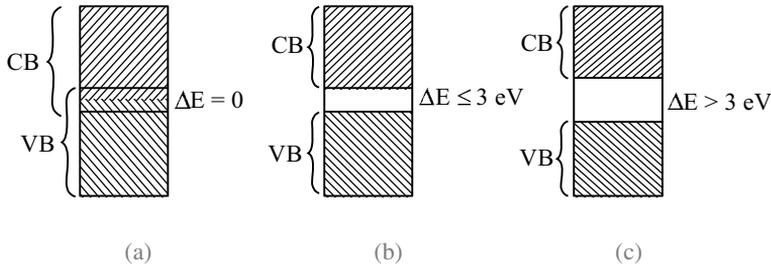

Fig. 28.1 Energy band in (a) Conductors (b) Semiconductors (c) Insulators
If in a solid at equilibrium separation, the conduction band (CB) and valence bands (VB) overlap as it happens in case of metals the material is conductor [Fig. 28.1(a)].
If at equilibrium separation the conduction band is completely empty, valence band is completely full and there is a small band gap ( $\Delta E \leq 3 \text{ eV}$ ) between the highest level of valence band and lowest level of conduction band, called a forbidden energy gap, the solid is a semiconductor. [Fig. 28.1(b)].